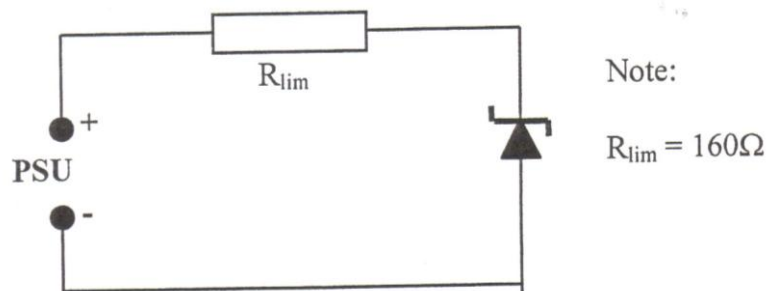

Fig. 4.4: Circuit diagram.
1. Construct (on stripboard) the circuit shown in Fig. 4.4.